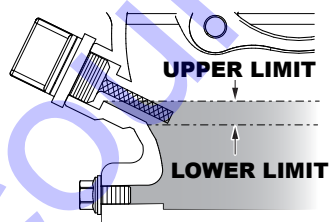

Figure 5. Engine Oil Dipstick (Oil Level)
4. If the oil level is low (Figure 5), fill to the edge of the oil filler hole with the recommended oil type (Table 5).